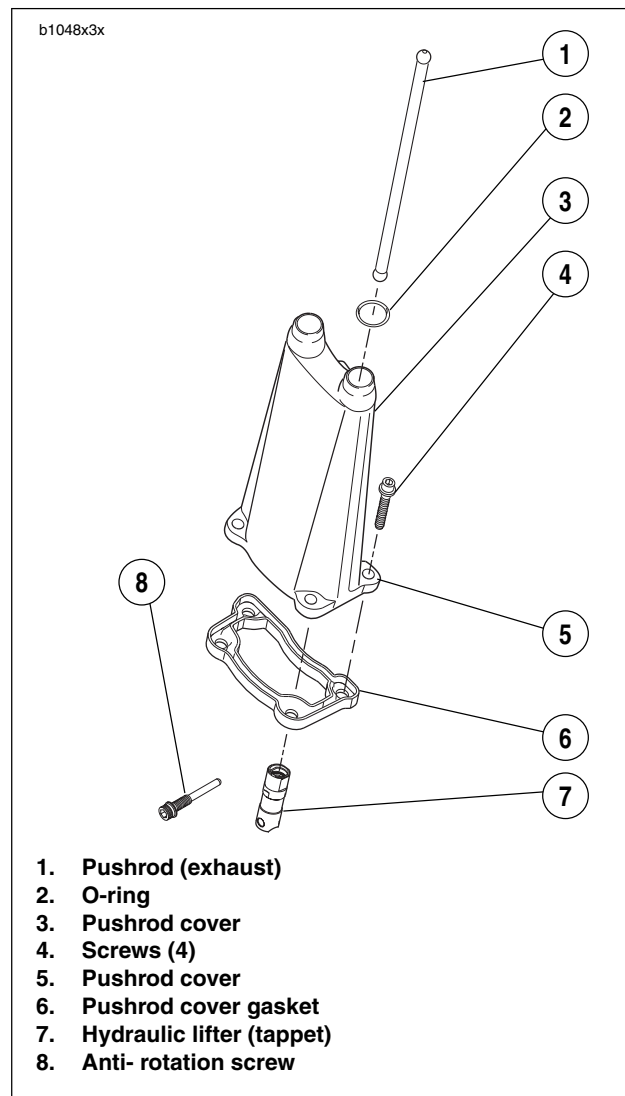

Figure 3-125. Valve Lifter Service
4. See Figure 3-125. Remove push rod covers.
3. See Figure 3-125. Insert lifter into bore in crankcase. Rotate lifter so that flats at upper end of lifter face the front and rear of the engine. If the lifter is installed incorrectly, anti-rotation screws cannot be inserted.
5. See Figure 3-125. Install pushrod cover.